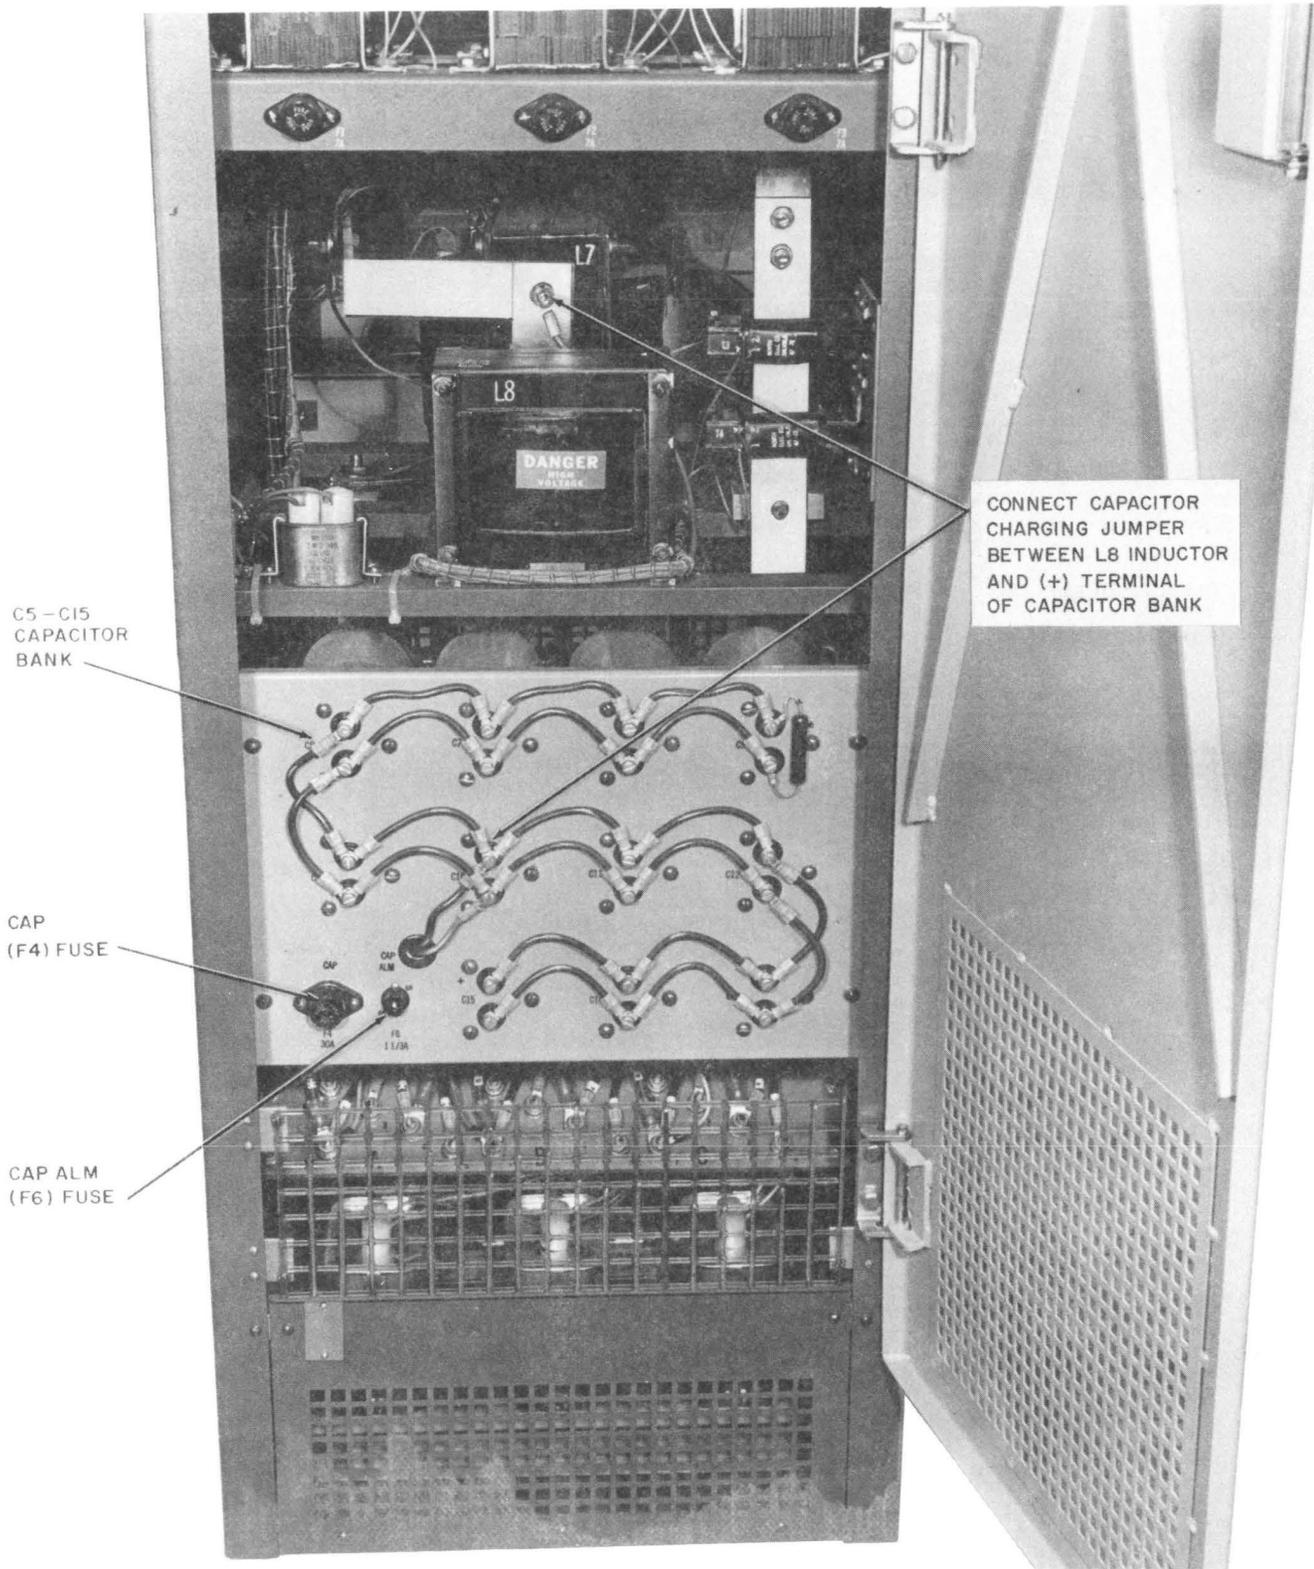

Fig. 2—KS-19210 L23 Rectifier—Partial Rear View—Door Open
- (1) Verify that the rectifier controls are positioned as listed in 3.01.
- (2) Remove the CAP ALM (F6), 1 1/3-ampere fuse, and then the CAP (F4), 30-ampere fuse. (Refer to Fig. 2.)
- (3) Operate the DC OUTPUT (S1) switch to the BAT position.
**Caution:** The output filter capacitors are not charged and must be charged prior to installing the CAP (F4) fuse in its fuse holder. The filter capacitors are charged by connecting a jumper across the F4 fuse holder as given in (4).
- (4) **Caution:** To prevent shorting the jumper with other parts of the rectifier, always make the battery (+) connection last.
Connect the jumper (jumper switch in *off* position) from the common positive (+) connection of capacitors C5-C15 to terminal 2 of the L8 inductor. (Refer to Fig. 2.)